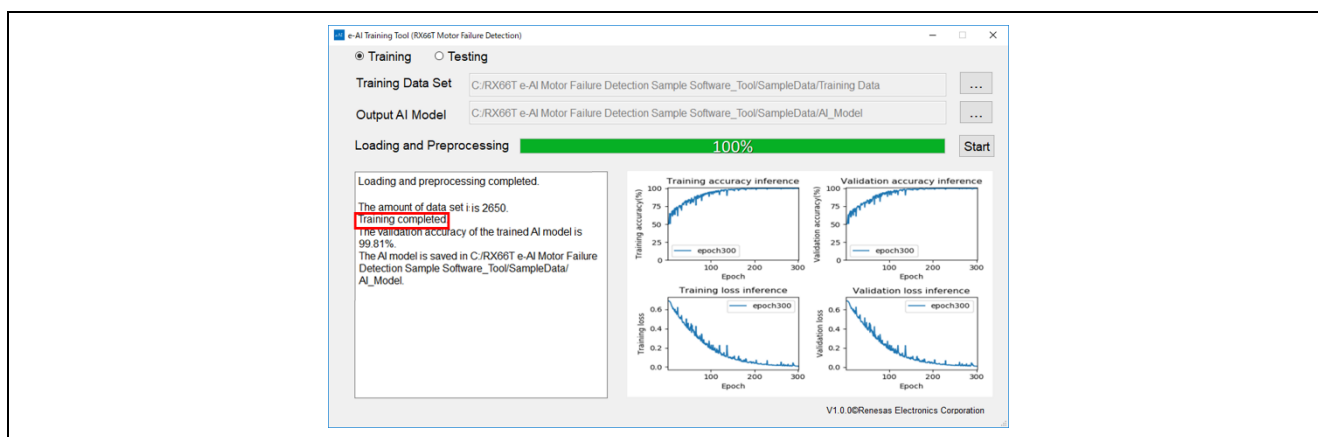

Figure 5-6. Training Completed Screen Shot
- ① Prepare three folders ahead of time and name as follows: Training data, Testing data, AI_Model. Store the collected training data and testing data in their respective folders. The AI_Model folder is for storing the output AI model.
- ② Execute the e-AI_Training_Tool.exe file. Make sure the program is set to Training mode.
- ③ Specify each data folder. Specify the folder that stores the training data as "Training Data Set." Specify the folder created for the output AI model as the "Output AI Model."
- ④ Click START to initiate the training. Preprocessing of the training data will start. When the progress bar shows "100%", preprocessing is complete and "dataframe.csv" is created in the folder where the collected data is stored. When preprocessing finishes, the sequence proceeds to the training process. When training finishes, "Training completed" is displayed as shown on the left in Figure 5-6. If a problem is detected during preprocessing, operations stop and "Training failed" is displayed.